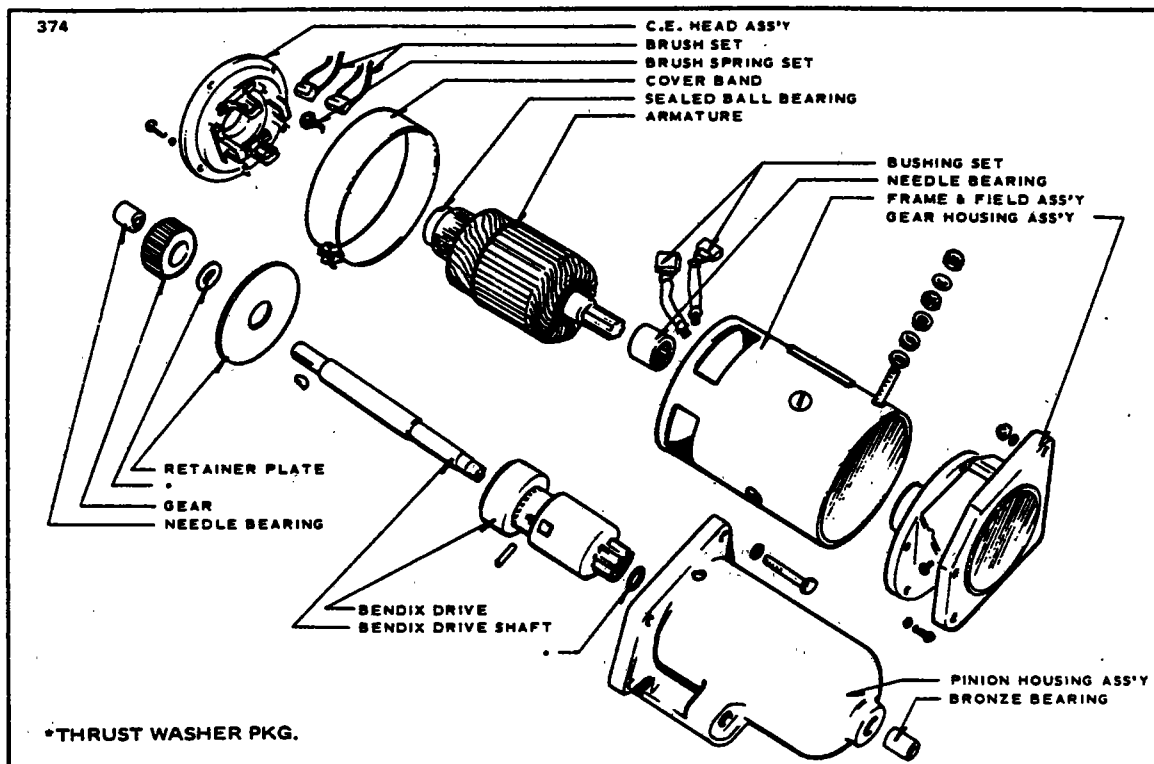

Figure 11-47. Exploded View of Gear Reduction Starting Motor
**11-93. DESCRIPTION.** The gear reduction starting motor consists of six major components: The Commutator End Head Assembly, The Armature, The Frame and Field Assembly, the Gear Housing, The Pinion Housing, and The Bendix Drive Assembly. Refer to Figure 11-47.